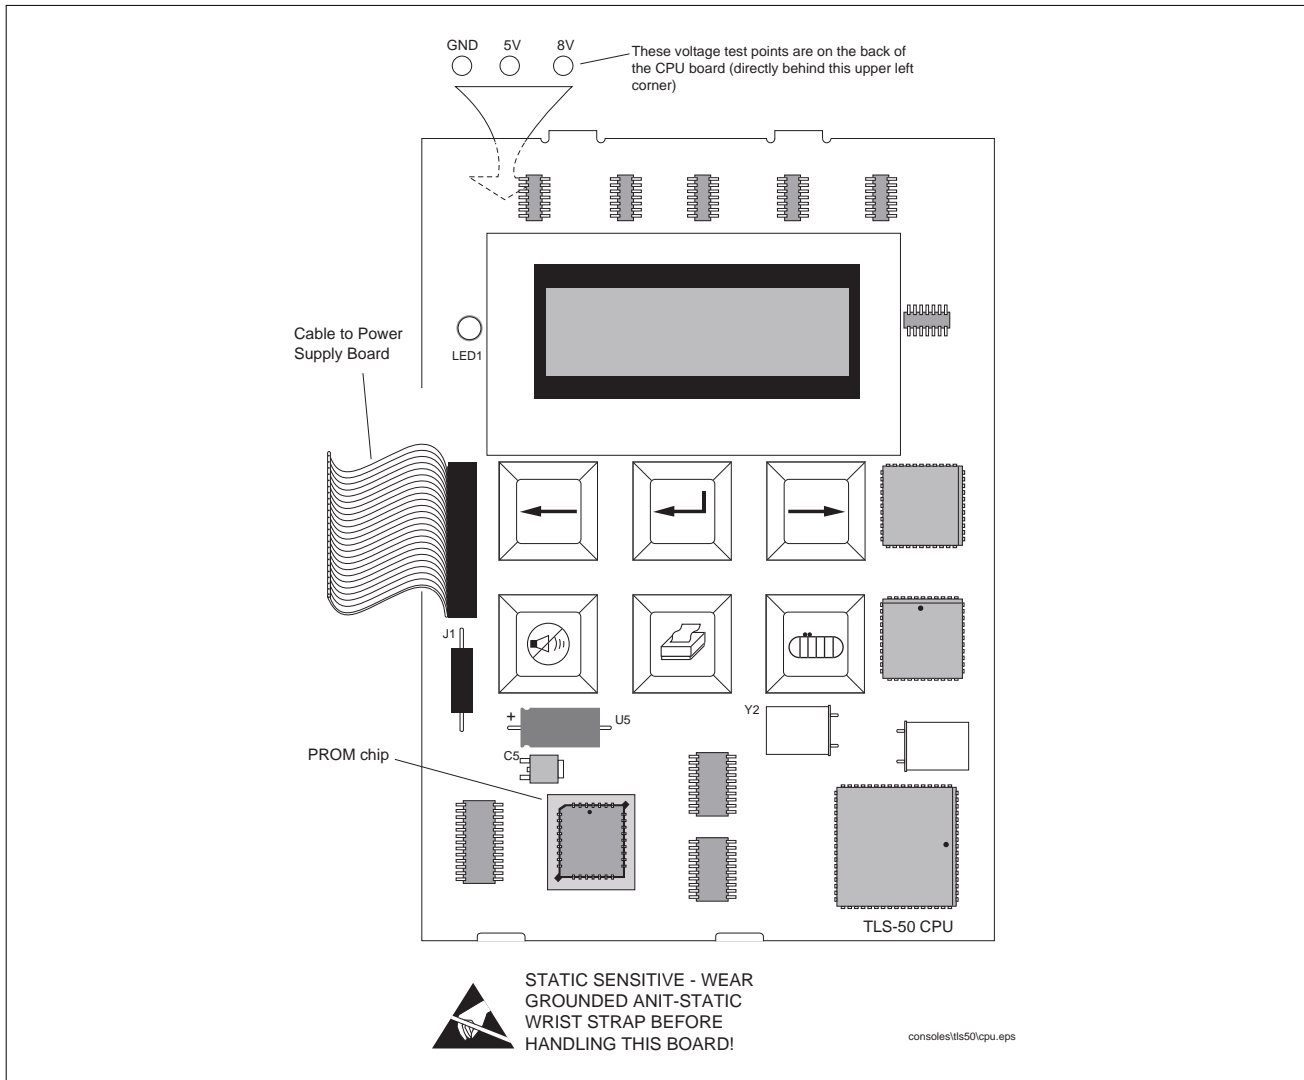

Figure 24. CPU Board Voltage Test Points (Keypad/Display version shown)
- The voltage between the GND and 5V test points [Figure 24] on the back of the CPU board is not within 4.75 - 5.25 Vdc.
5. Locate the PROM chip on the board [Figure 24].
- The voltage between the GND and 8V test points [Figure 24] on the back of the CPU board is less than 7 Vdc.